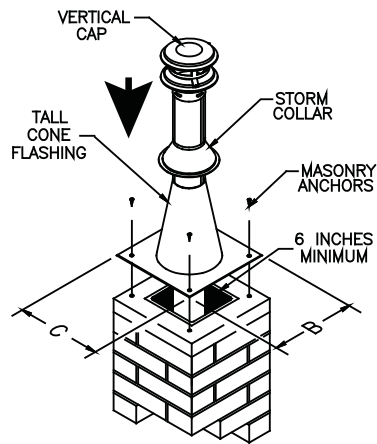
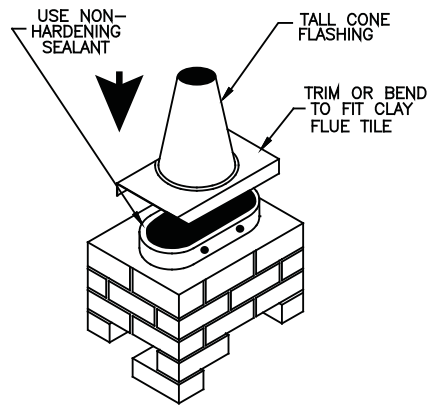

Figure 23
Figure 25
11. For support at the termination of the Vent, use a Tall Cone Flashing, and a Storm Collar. This will require 14 inches of pipe above the top of the masonry chimney. Pull the pipe up through the flashing to the desired height. Mark location of the Storm Collar. Slip the Storm Collar down over the pipe and affix it to the pipe with a 1/4"-long stainless steel sheet metal screw **(Figures 23 & 24)**. The Storm Collar will then support the entire vent system. Install the Cap. Seal the joint at the Storm Collar, and any other joints or seams which may appear suspect. **(Figure 25)** shows a Tall Cone Flashing modified to fit a chimney where the tile liner protrudes above the masonry, as another alternate termination technique. This completes the masonry installation.